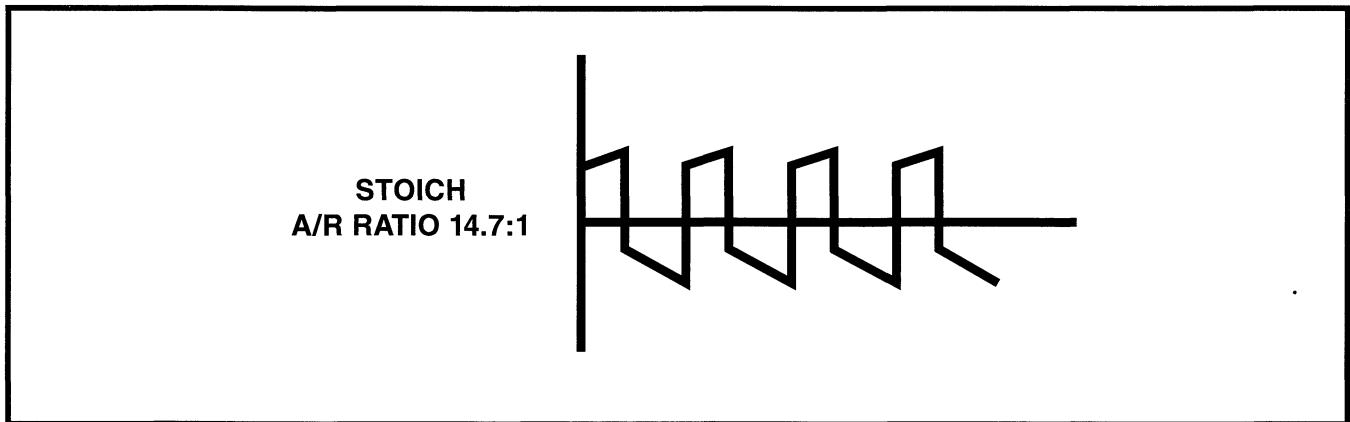

Figure 45 Short Term Fuel Compensation
Earlier it was mentioned that when the fuel system goes into closed loop operation there are two adaptive memory systems that begin to operate. The first system that becomes functional is called short term memory or short term correction (fig. 45). This system corrects fuel delivery in direct proportion to the readings from the upstream O₂ sensor. In other words, as the Air/Fuel (AF) mixture changes the O₂ sensor voltage telling the PCM that the AF ratio contains either more or less oxygen. The PCM then begins to either add or remove fuel until the O₂ sensor reaches its switch point. When the switch point is reached short term correction begins with a quick change (kicks), then ramps slowly until the O₂ sensor's output voltage indicates the switch point in the opposite direction. Short term adaptive memory will keep increasing or decreasing injector pulse width based upon the O₂ sensor input. The maximum range of authority for short term memory is $\pm 25\%$ of base pulse width.